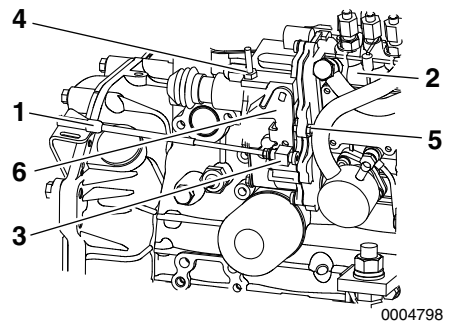

Figure 4
Never adjust the high-speed stop bolt (**Figure 4, (4)**) on the governor. This will void the engine warranty.